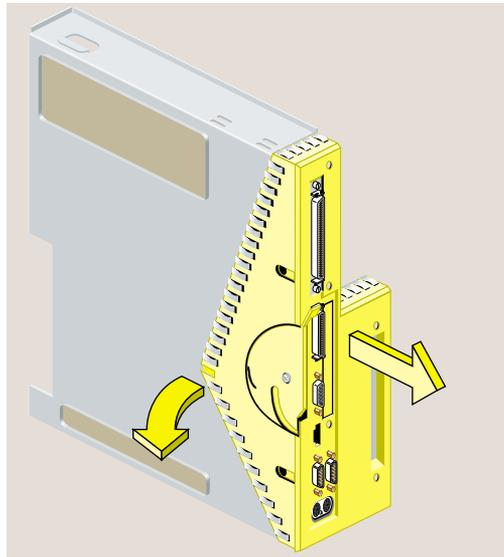

Figure 5-10 Removing the Face Plate From the System Module
3. Remove the faceplate by grasping it where the plastic comes to a “V” and pulling it outward (Figure 5-10).